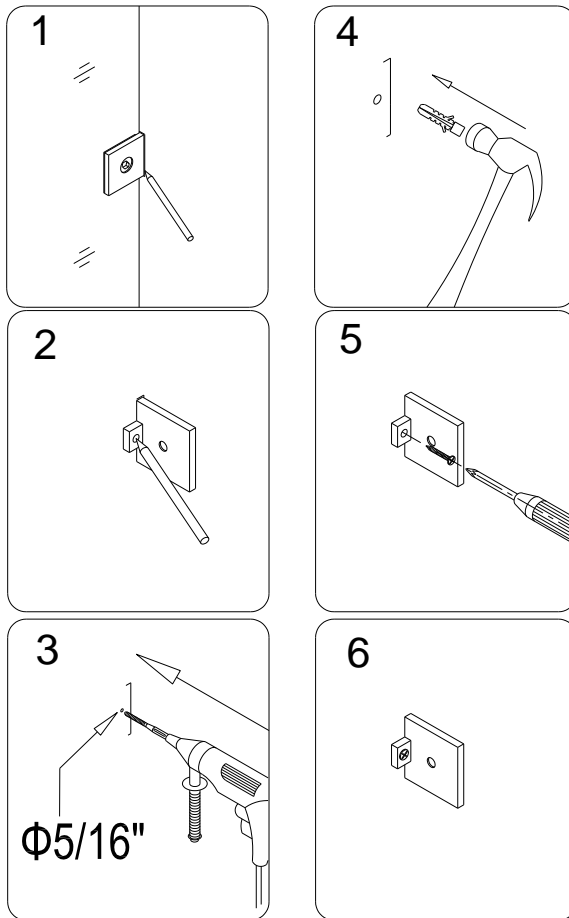

Fig. 3
4. Using the removed **Brackets**, mark the drill holes for the **Bracket** installation on the wall. Drill the holes and insert the **Wall Anchors (05)** in the holes. Attach the **Wall Brackets** to the wall using the **Round head screw ST4.2×30 (06)**. See Fig. 3 for details. (Note that all parts of the wall brackets with the mounting holes should face inward in final installation).